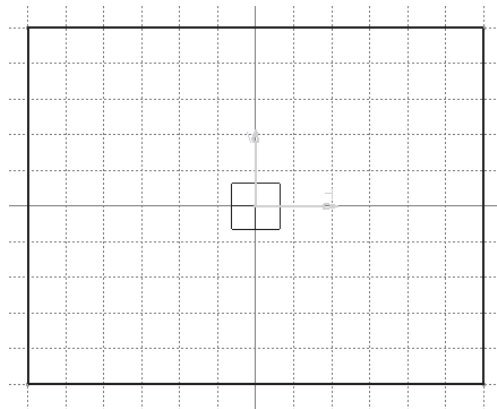

Figure 1-46 The outer loop of the sketch
- b. Draw the sketch of the model using the **Rectangle**, **Profile**, and **Circle** tools, refer to Figures 1-46 through 1-48.
3. Move the cursor to the location whose coordinates are 60, 50 and specify the upper-right corner of the rectangle. Figure 1-46 shows the outer loop of the sketch drawn using the **Rectangle** tool.